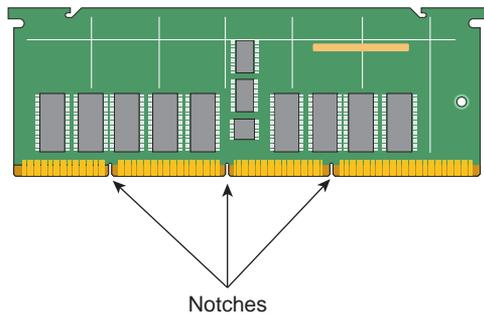

Figure 3-10 Locating the Notches on a DIMM
- c. Align the bottom edge of the DIMM with the keyed socket. Make sure that the notches on the bottom of the DIMM align with the protrusions in the bottom of the socket (see Figure 3-10).